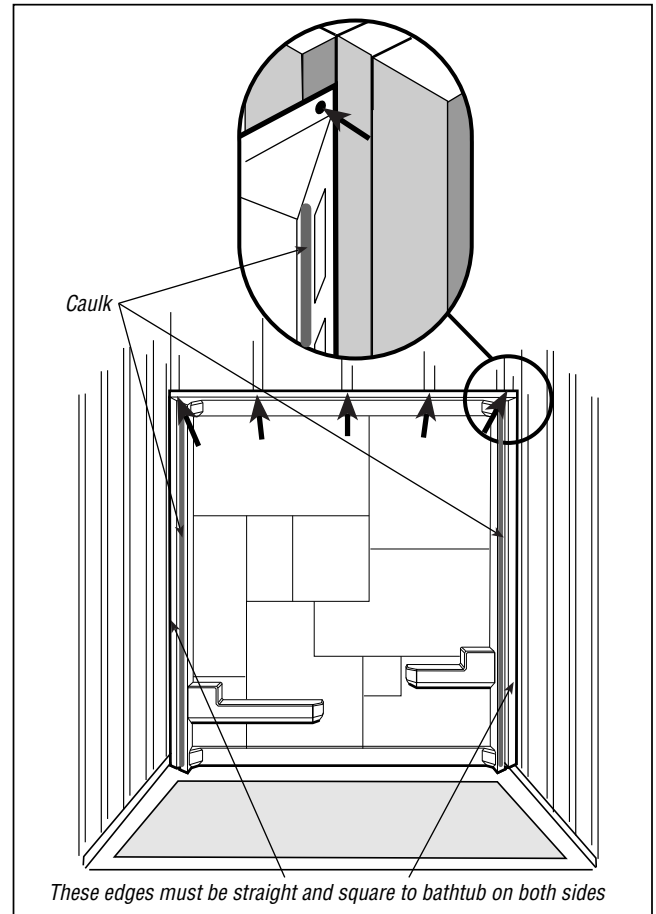
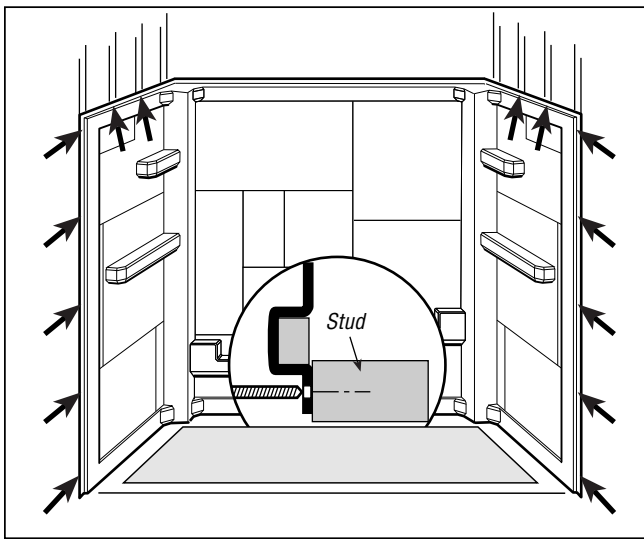

Figure 3
Figure 4
- 4** Locate and drill a 3/16" hole in the center of the nailing flange at the top of the panel and centered on each stud (*Figure 4*). **Check that the vertical nailing flanges on both sides are straight and square with the tub (you may need to manually bend the nailing flanges to straighten).** Also drill four evenly spaced 3/16" holes on the front nailing flange on each side. Hammer 3/4" galvanized roofing nails through each hole and into the studs, securing the wall panel. Add a bead of latex/acrylic caulk down the vertical 45° surface along side the alignment locators at each corner of the back panel (*Figure 3*).
- 5** Apply a bead of adhesive down each stud that will come in contact with the side panels. Install each side panel by sliding panel firmly into corner. Press each panel firmly to ensure proper adhesion to studs. Locate and drill a 3/16" hole in the center of the nailing flange at the top of the panel and centered on each stud. Also drill 3/16" holes in the front nailing flange on each side panel at approx. 12" intervals, centered on the flange (*Figure 4*). Hammer 3/4" galvanized roofing nails through each hole and into the studs, securing the wall panel.